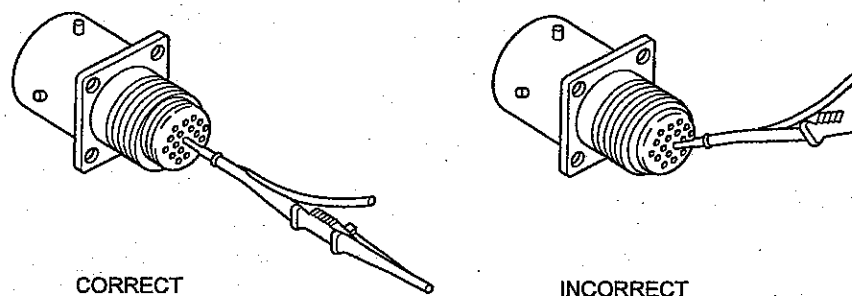

Fig 5 Contact insertion into rear insert
- 6.4 Slowly push the contact into the rear insert ensuring that the contact and insertion tool are correctly aligned as shown in Fig 5.